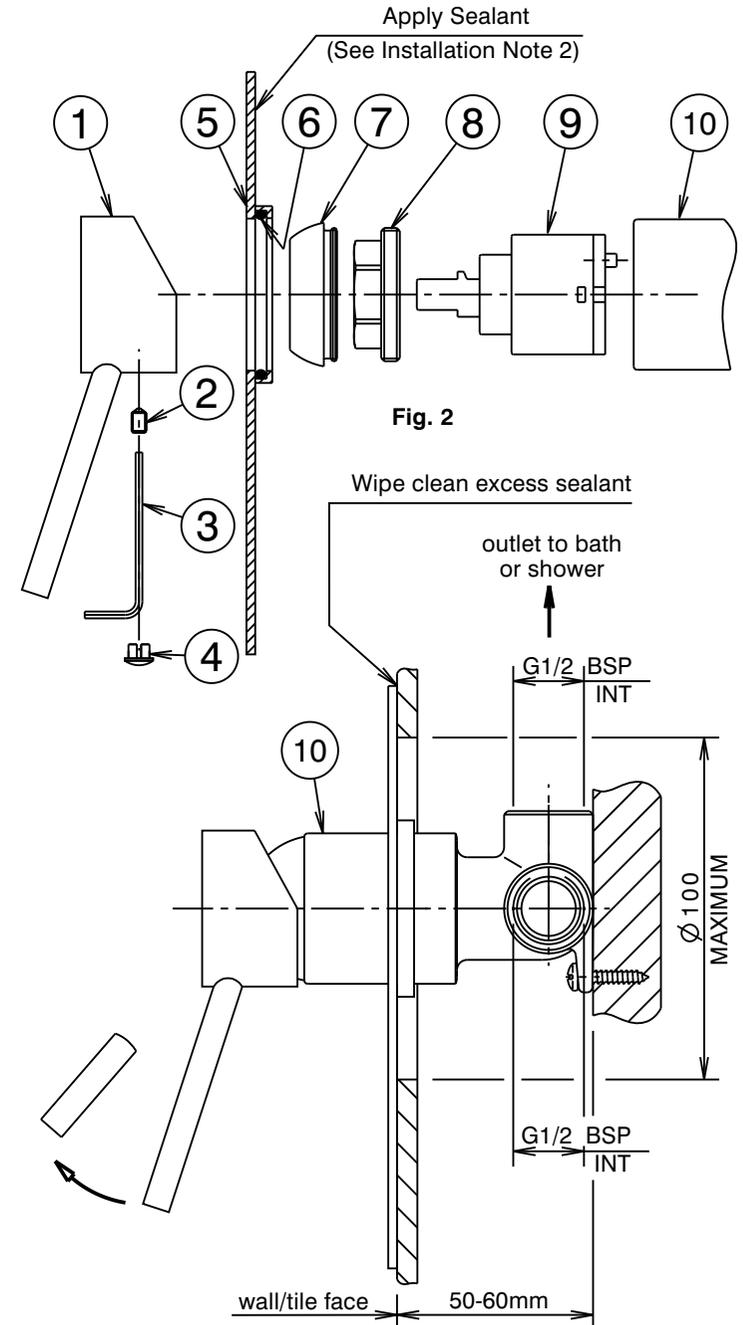

Fig. 1
### Installation (Fig. 1 & 2)
- \* Mixer body (10) must be installed square to wall/tile face, to ensure cover plate (5) sits flush.
- 2) Apply a suitable clear sealant to the back edge of the cover plate (5), leaving an unsealed section at the bottom for drainage. Carefully slide the cover plate (5) onto the mixer body (10), ensuring that the 'O' Ring (6) remains in its groove. Push the cover plate firmly against the wall/tile face, making sure that the top edge is horizontal to align with the tile joints. Wipe clean any excess sealant from the chrome surfaces & the wall/tile face (See Fig. 1).
- 3) Fit handle (1) taking care that it is pushed fully onto cartridge stem, then tighten grub screw (2) using the 2.5mm allen key (3). Fit plug (4), taking care not to damage the decorative finish.